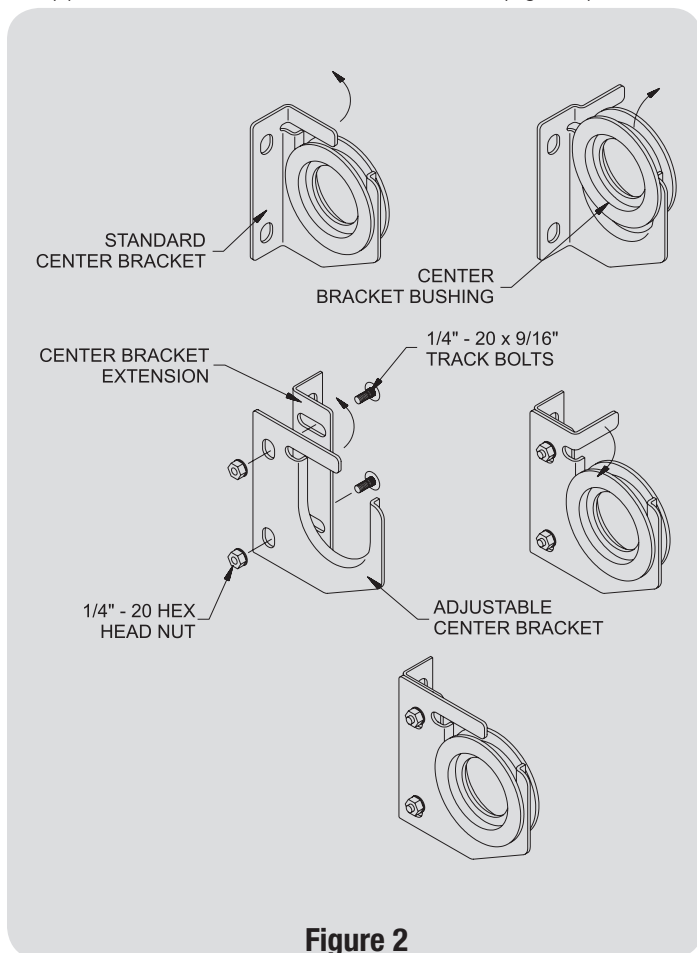

Figure 2
Before installing the adjustable center bracket, the bushing must be removed from the standard center bracket. First twist strait arm on both the standard and adjustable center brackets so that the bushing may pass through. After pulling the bushing from the standard center bracket, place it into the adjustable center bracket and twist the straight arm back to the original position. Align the center bracket extension with the adjustable center bracket and loosely fasten with two (2) 1/4" - 20 x 9/16" track bolts and hex nuts (Figure 2).